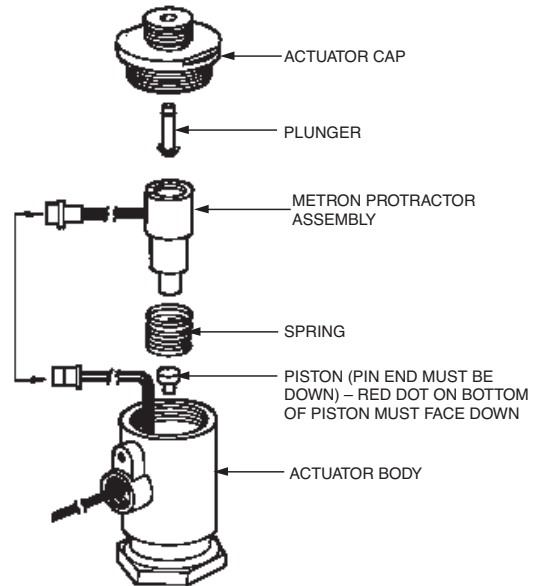

FIGURE 9
3. Unscrew actuator cap. See Figure 9.
4. Lift actuated METRON PROTRACTOR assembly housing out of actuator body and disconnect wire plug. See Figure 9.
- Position METRON PROTRACTOR housing assembly back into electric actuator body, making certain METRON PROTRACTOR housing assembly and spring are properly seated in bottom of actuator body. See Figure 9.
- Plug wire connector together. See Figure 9.
- Make certain plunger moves freely up and down. See Figure 9.